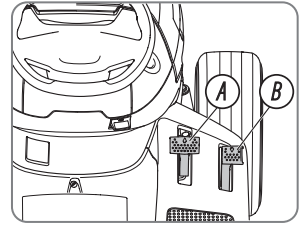

Fig. 29
3. Carefully push the forward pedal (A) or the rearward pedal (B). The speed increases the more the pedal is pushed down (Fig. 29).